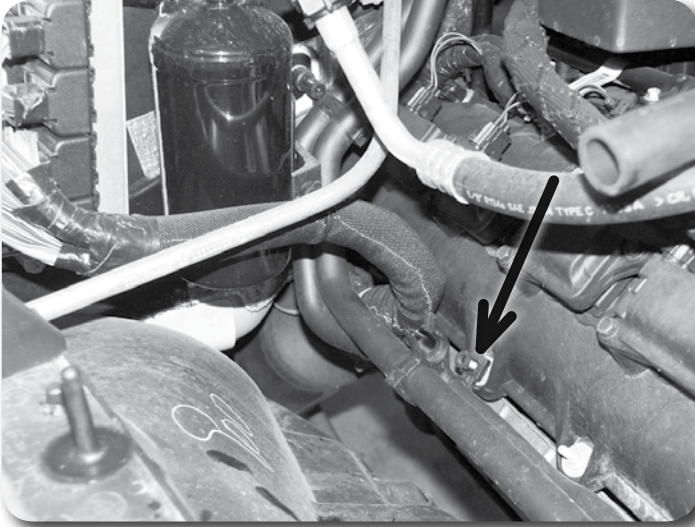

Figure 5
15. Remove the main engine wiring harness and heater hoses from the retaining clips on the passenger's side of the engine **Figure 5**.